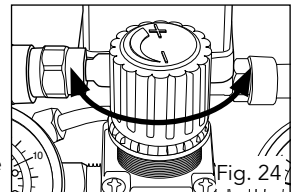

Fig. 24
3. You can adjust the level of output pressure by turning the pressure regulating knob (7). To increase the air pressure, rotate the regulating knob clockwise. To decrease the pressure, rotate the regulating knob anti-clockwise (Fig. 24).